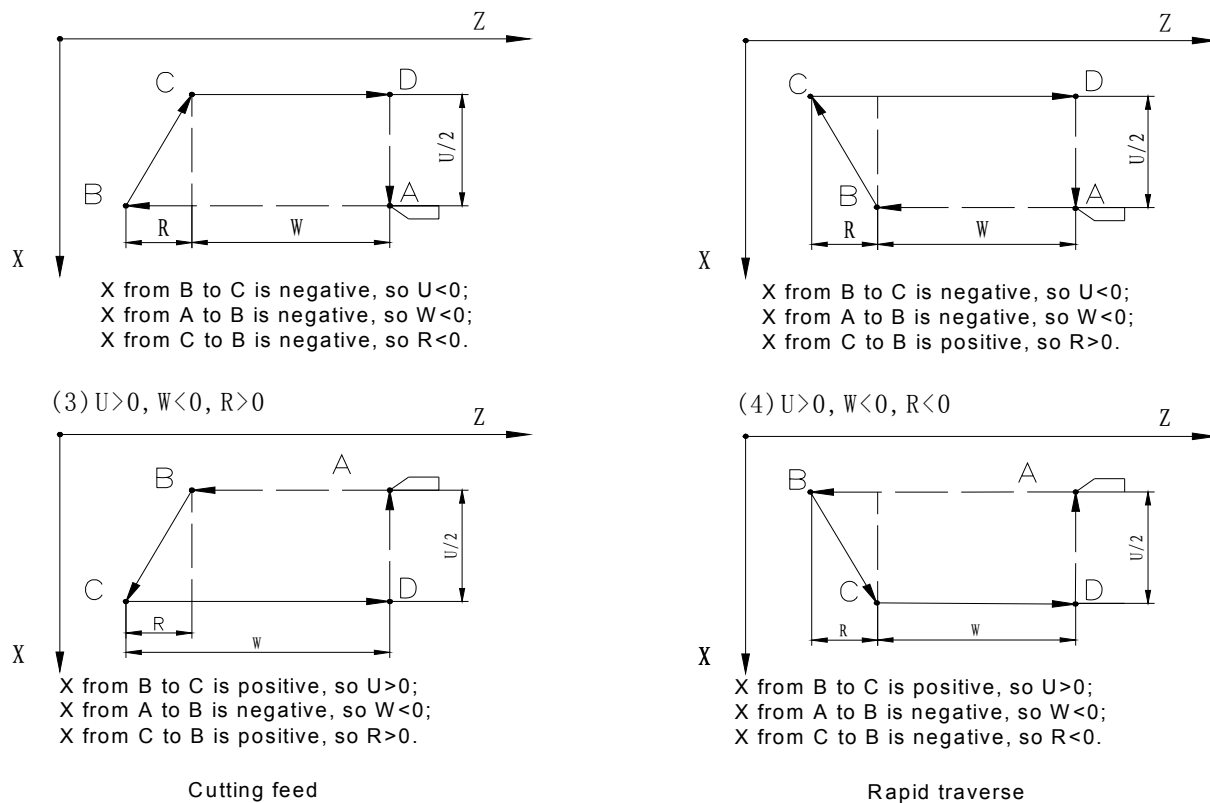

Fig. 19 G94 cycle, relationship between signs of U, W, R and tool path
**Example 1:** Fig. 19 a, the first feed= 5 mm, the second feed= 1.5 mm, F=80 mm/min, and its programming as follows:
**Example 2:** Fig. 19 b, feed R=-5 mm once, feedrate=100 mm/min and its programming as follows:
**Note 2:** The computation method of max. taper R( as Fig. 19 b):